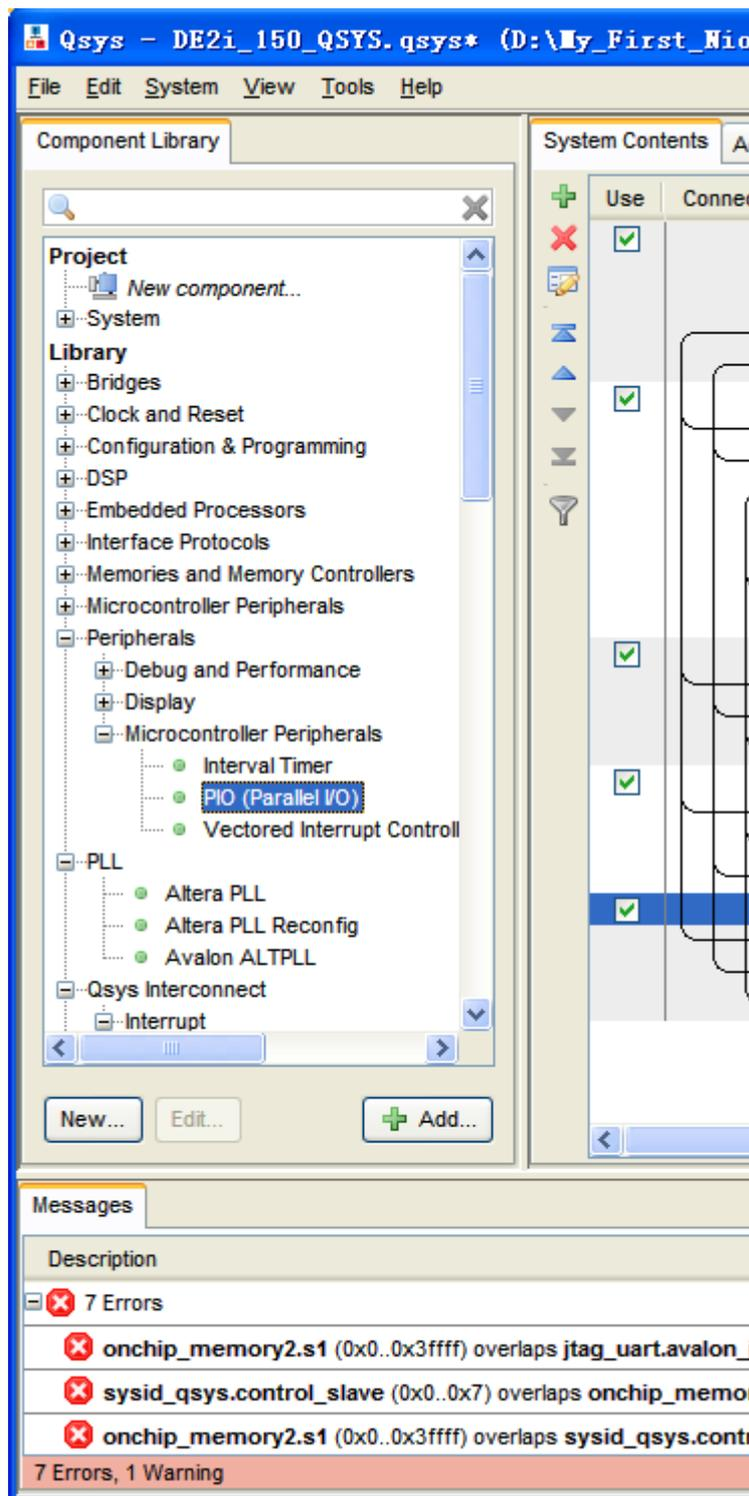
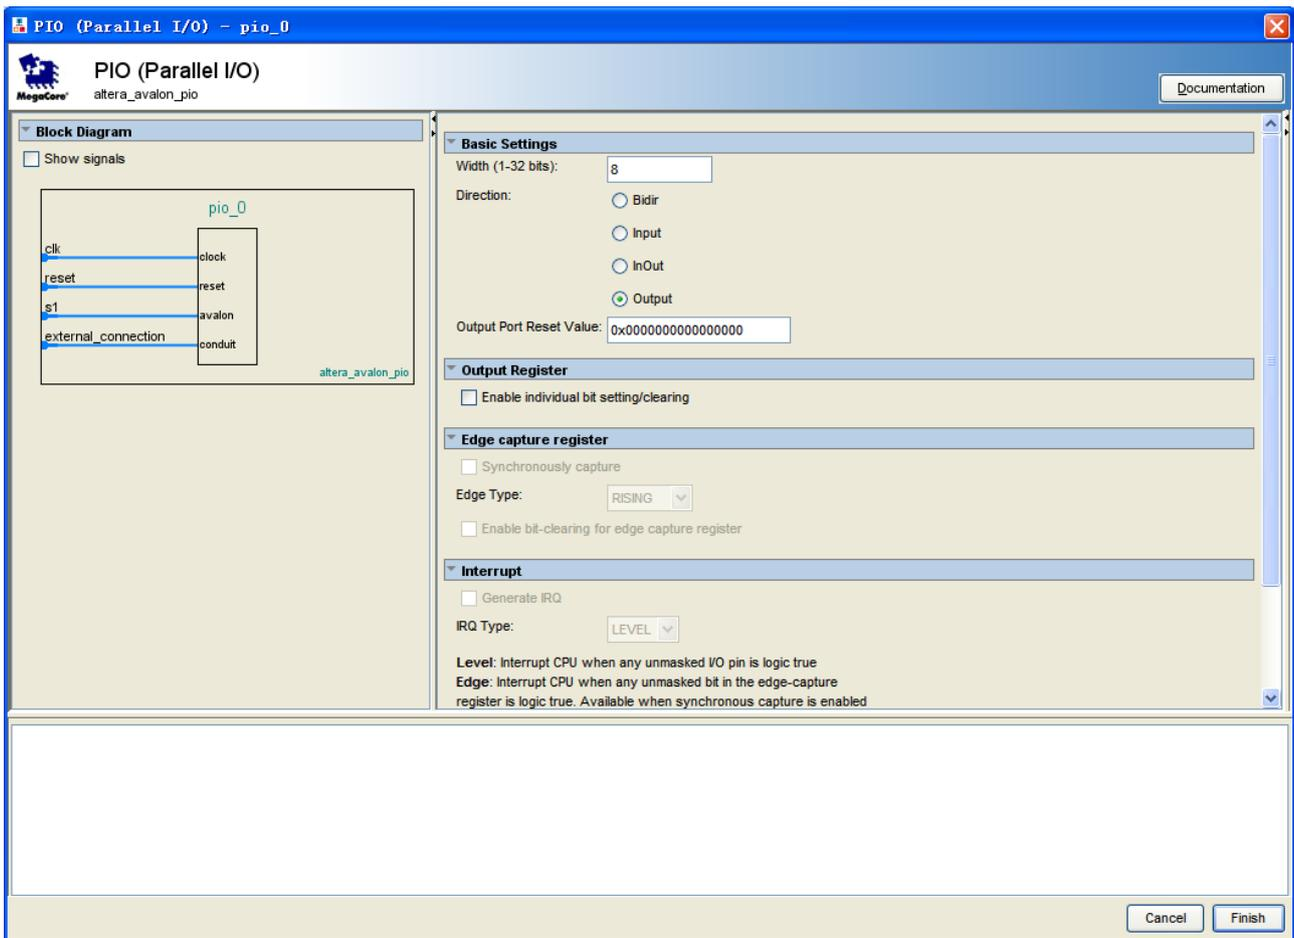

Figure 1-37 Add PIO
Figure 1-38 Add PIO
23. Choose **Library > Peripherals > Microcontroller Peripherals > PIO (Parallel I/O)** to open wizard of adding PIO. See Figure 1-37 and Figure 1-38.